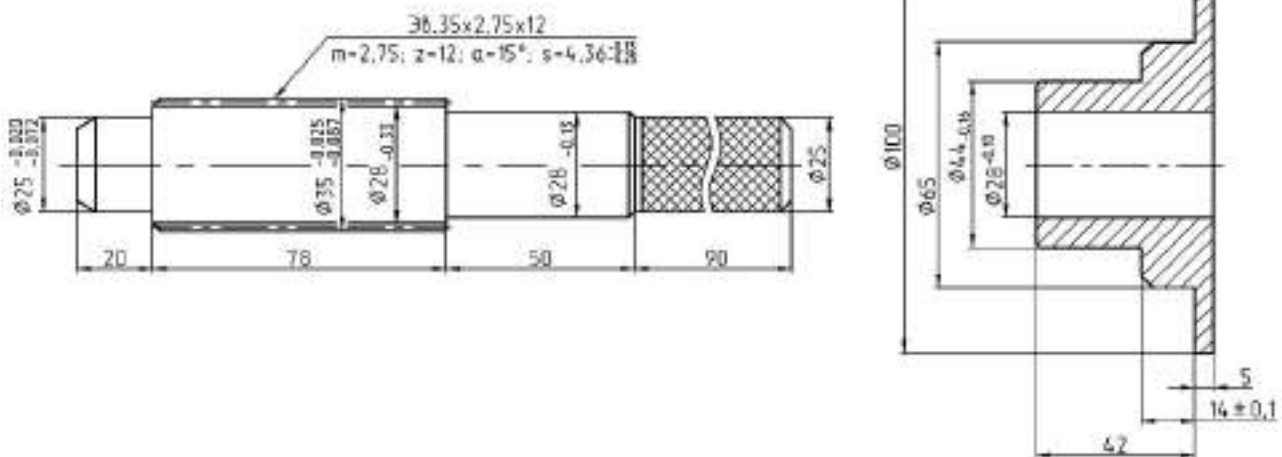

Fig. H-10. Workholder
- mount a splined workholder (fig. H-10) in the bearing of the flywheel.